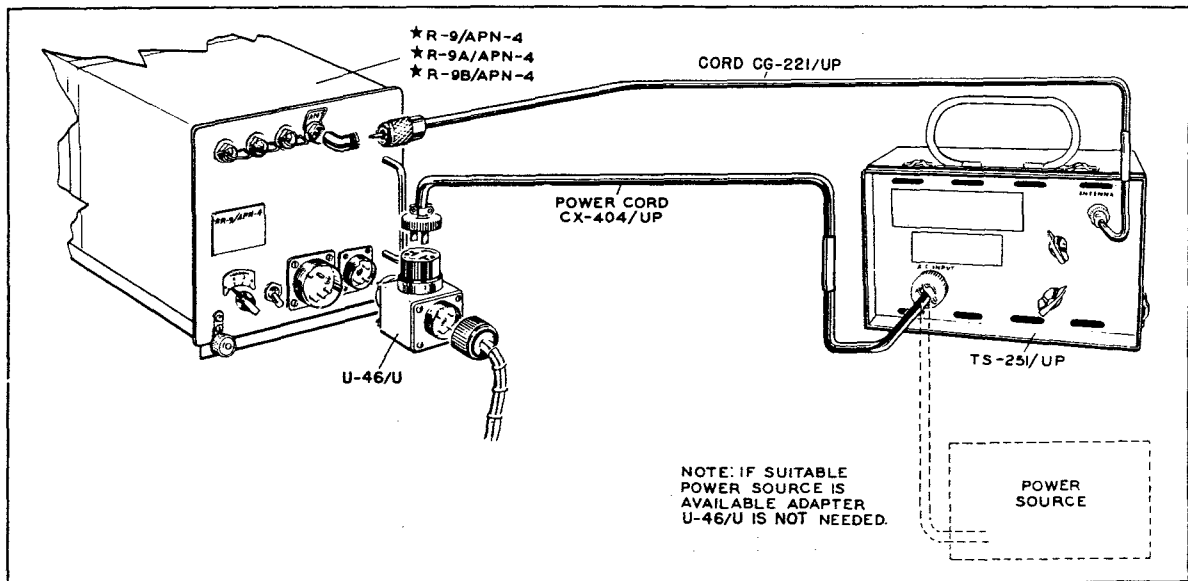

Figure 3-24. Test Set TS-251/UP—Cabling Diagram
(3) Replace chassis in carrying case.
(4) Connect Power Cord CX-404/02 and Radio Frequency Cable RG-58/U. (See fig. 3-24.)